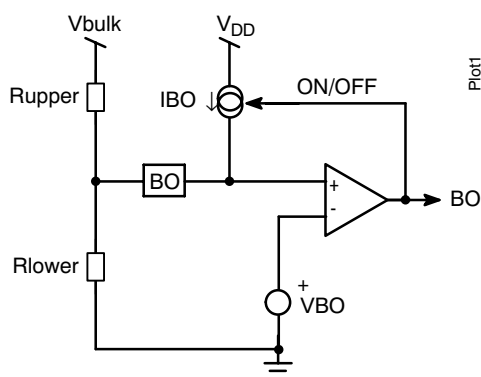

Figure 30a. The internal brown-out configuration with an offset current source.
Figure 30a, offers a way to observe the high-voltage (HV) rail. A resistive divider made of R_{upper} and R_{lower} , brings a portion of the HV rail on pin 3. Below the turn-on level, the 10 μ A current source IBO is off. Therefore, the turn-on level solely depends on the division ratio brought by the resistive divider.